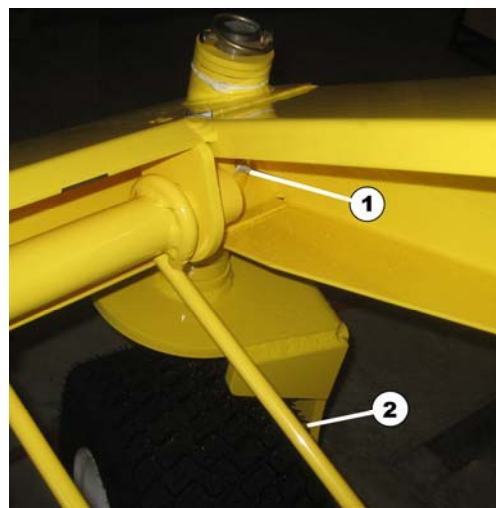

Figure 18. Gauge Wheel Greasing
All drive chains should be lubricated regularly, a foaming spray-on oil is recommended. Holes are provided for oiling the chains without having to remove covers as needed. See Figure 18. Inspect for chain tension daily and adjust as needed and outlined in the "Adjustments" Section.
1. Gauge wheels adjusters at 1 place on each end. See Figure 18.
2. Wheel spindles at 1 place each. See Figure 18.